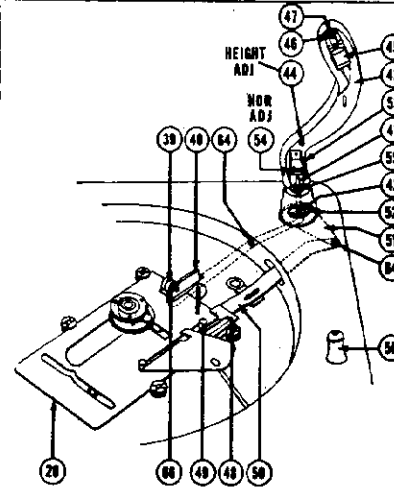

Fig. 5
<p style="text-align: center;">MOVEMENT OF PICK UP ARM (Fig. 5)</p> <p>Raising Pick-up Arm (43).</p>	<ol style="list-style-type: none"> 1. When Main Slide (20) moves toward right rear corner, Lift Roller (39) engages and pushes Lift Lever (40) down. 2. Lift Lever (40) actuates Lift Rod (41) which in turn causes Pick-up Arm (43) to rise. 3. Height of Pick-up Arm may be changed by shifting the Height Adjustment Screw (44).